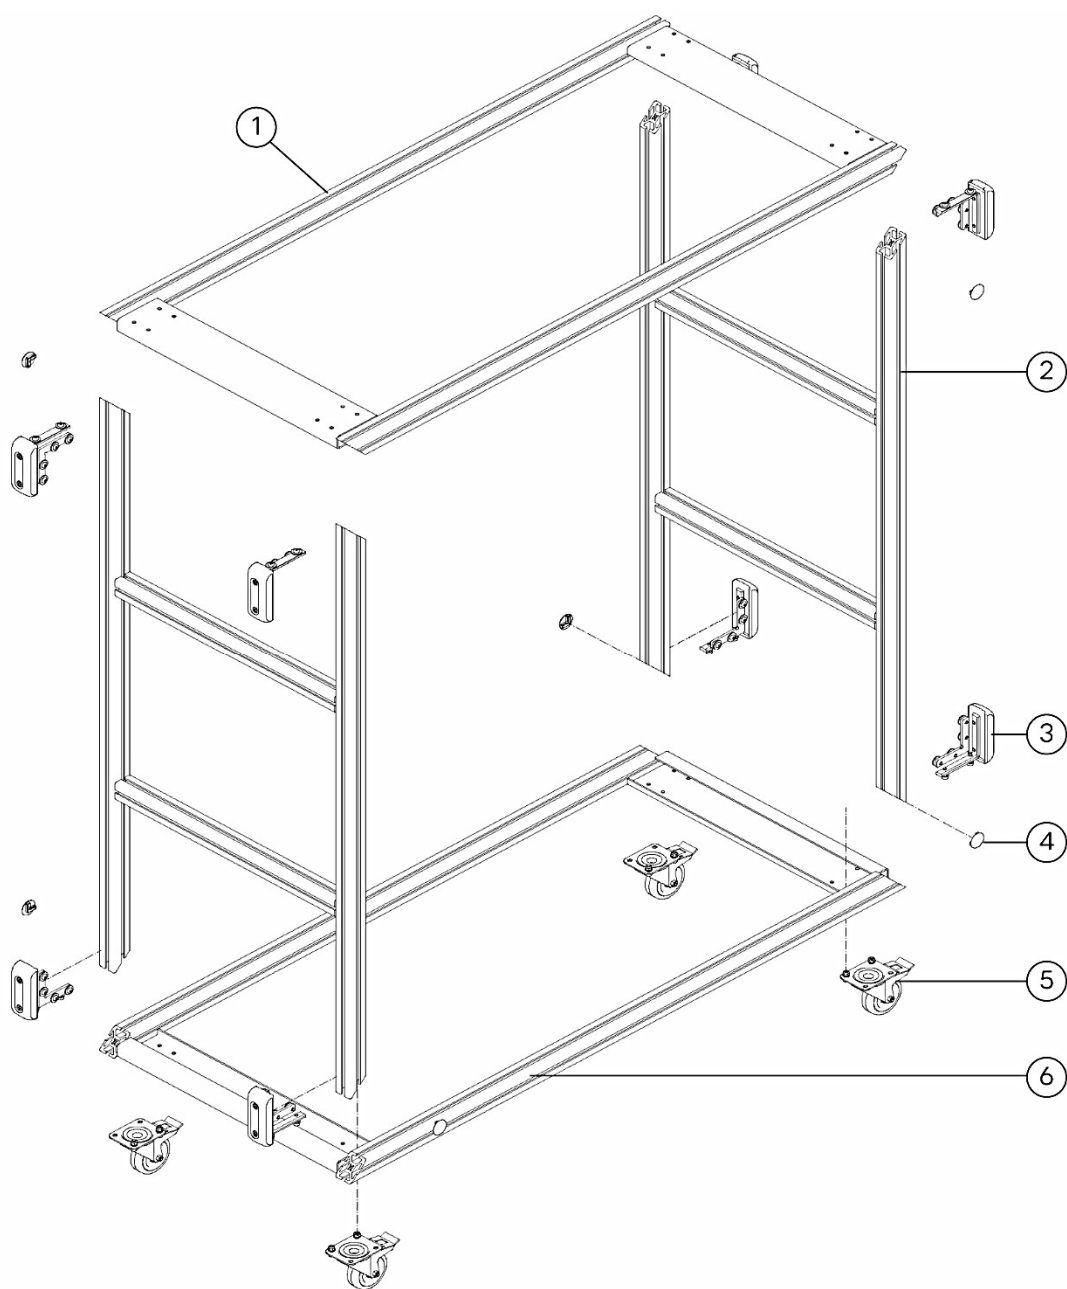
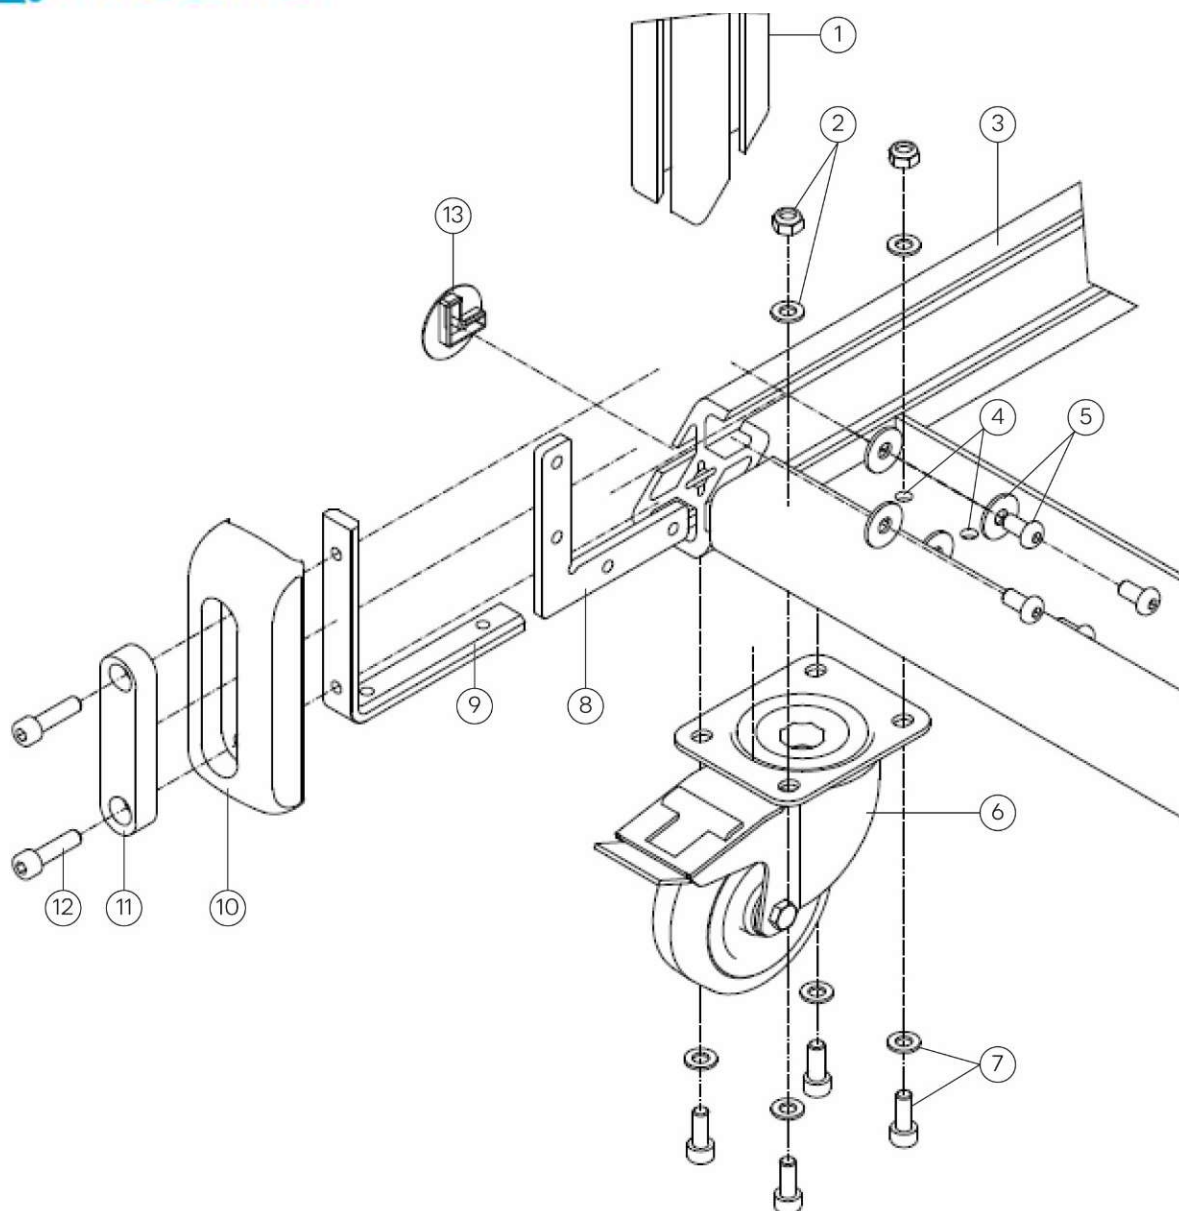

Figure 4: Assembling the frame
Figure 5: Detail of frame corner assembly
The description below applies to the frame of the FlexCart. The top and bottom frame elements (items 1 and 6 in Figure 4) are identical and can be used in both positions. Figure 5 shows the frame with a 100-mm (3.94-in) wheel; the plate for the 160-mm (6.30-in) wheels is rotated by 90°. For details on assembling the wheel variants, see Section 7.3.1. The help of a second person is required to assemble the frame. The item numbers used in the description refer to Figure 5.
1. Insert the flat steel profile (item 8) into the inner profile channel and the L-shaped steel profile (item 9) into the bottom profile channel of the bottom frame element (item 3) as shown in Figure 5.
2. Position the wheel beneath the holes (item 4) in the bottom frame element.
3. Insert the wheel mounting plate bolts (item 7) from beneath and fasten the 2 bolts on the inner side using the nuts and washers (item 2).
4. Fasten the L-shaped steel profile (item 9) in place in the bottom frame element by tightening the 2 wheel mounting plate bolts on the outer side.
The 100-mm (3.94-in) wheels are assembled as described in steps 2 to 4 in Section 7.3. In step 3, the bolts for these wheels are inserted into the holes (item 4 in Figure 5) closest to the side extrusion of the bottom frame element, as shown below.
The 160-mm (6.30-in) wheels are assembled as described in steps 2 to 4 in Section 7.3. In step 3, the bolts for these wheels are inserted into the holes (item 4 in Figure 5) furthest away from the side extrusion of the bottom frame element, as shown below.